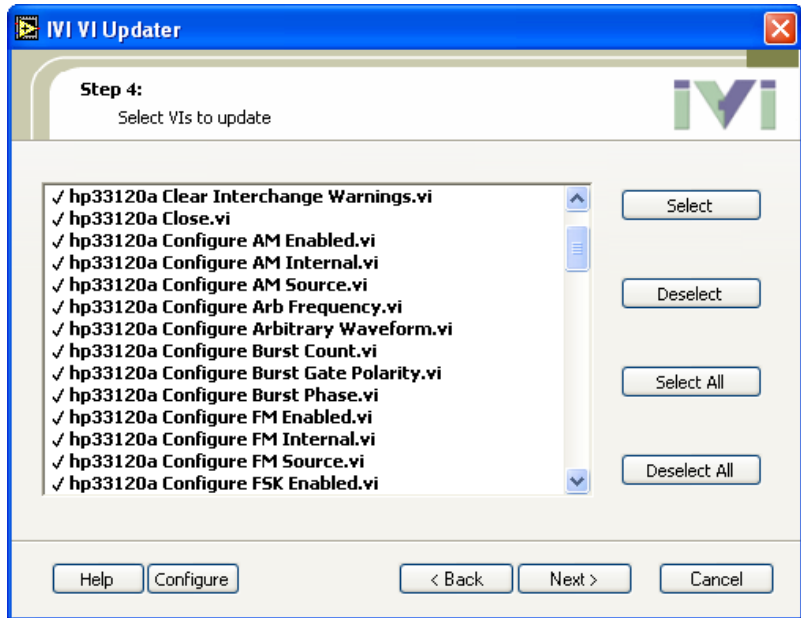

Figure 4. Select VIs to update Window
- Input the full path of your driver LLB file in **Specific driver path**, or browse to the location of the driver and click **Open**, as shown in Figure 4.
14. Use the provided Select, Deselect, Select All, and Deselect All buttons to select which VIs you wish to update, as shown in Figure 4.